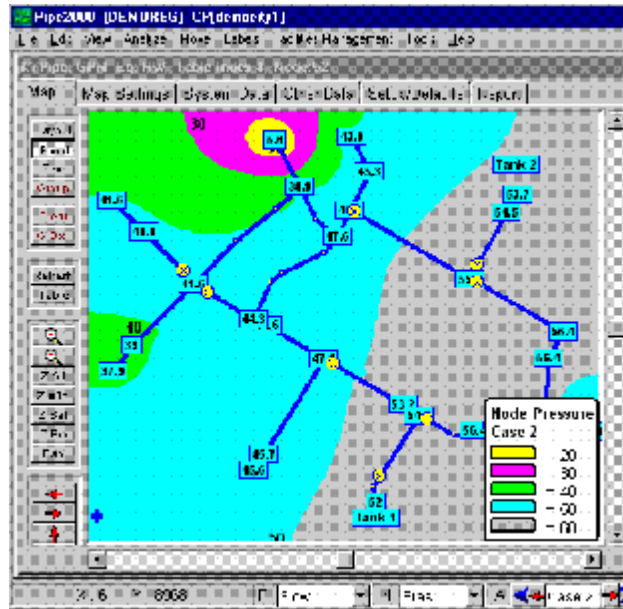

Figure 3 Contours, Case 2
**2) Contours:** Contours are very effective means for showing results. Show pressure contours for Case 2 to illustrate this feature. Make sure **Pres** (pressure) is selected in the **N** box and Case 2 in the **A** box (**Results Selector** bar). Click on **Map Settings** and **Emphasis/Contours** and select **Pressure** (parameter). The contour values should be set at 20, 30, 40, 50, and 60. Click on **Show Contour**, then **Map** (top tabs) to return to the map. The pressure contours should be displayed (if not, click the **Refresh** button). Figure 3 shows this display.